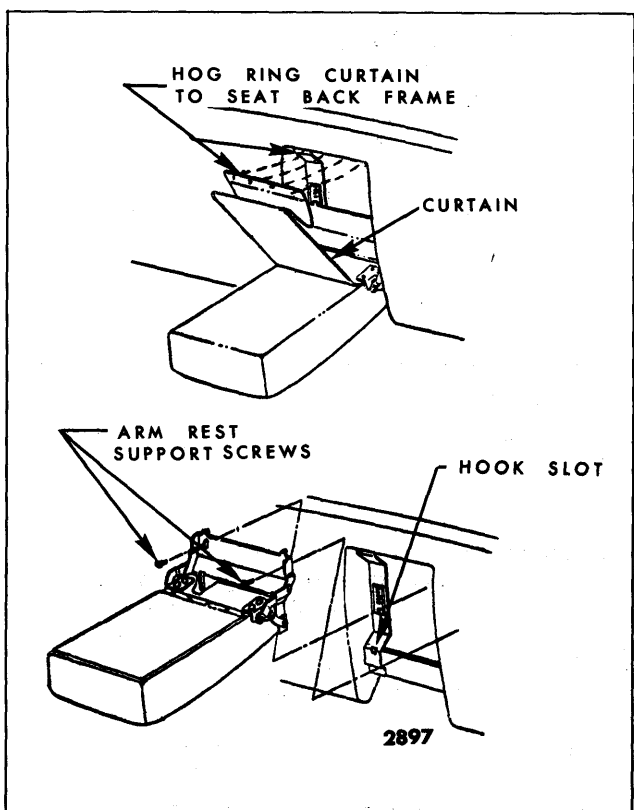

Fig. 15-25—Front Seat Back Center Arm Rest
2. At top of arm rest curtain, remove hog rings securing curtain to flange of support plate (Fig. 15-25) and pull curtain forward to expose screws securing arm rest to support linkage.
3. Remove arm rest-to-support linkage screws (Fig. 15-25) and remove arm rest and curtain from seat.
2. At top of arm rest curtain, remove hog rings securing curtain to flange of support plate (Fig. 15-25).
3. Remove two screws securing arm rest to supports on seat back (Fig. 15-25); then, carefully lift arm rest and linkage upward to disengage hooks of arm rest from slots in supports and remove assembly from seat.